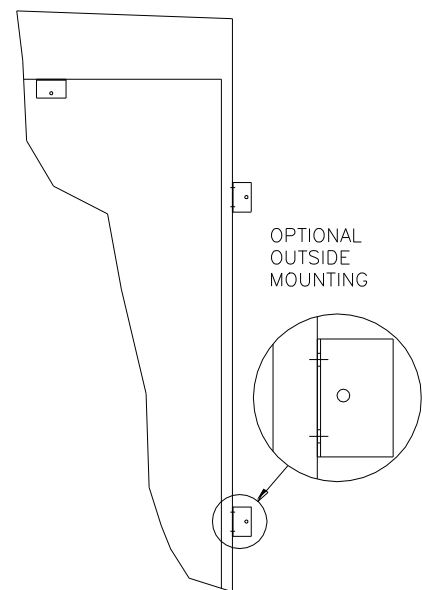

FIG. 1B
- * If there is not enough space, install the Mounting Brackets on the outside of the Frames (Figure 1b).